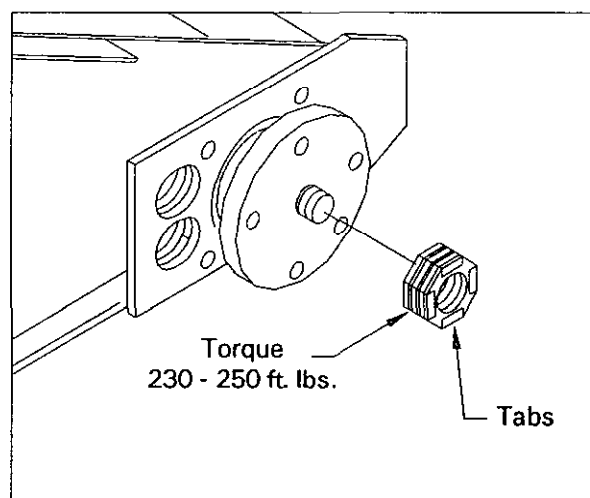

Figure 8
## WHEEL MOTOR NUT TORQUE (Fig. 8)
**ALWAYS** torque the nut on the wheel motor to 230 - 250 ft. lbs when servicing. Place the tabs of the nut on the outside as shown in Fig. 8. If the tabs are installed on the inside, against the hub, the nut cannot be torqued properly.